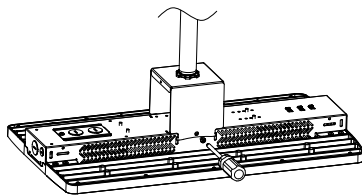

Figure 4
Step 2. Lock fixture on the bracket (Figure 4);